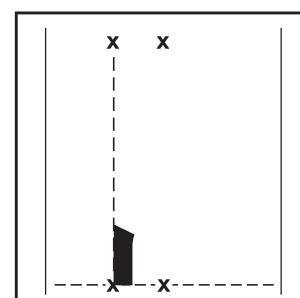

Figure 28
- Lay out the curve arrow base (liner still on) with the LEFT edge against the chalk line and the base along the base line (see Figure 28).